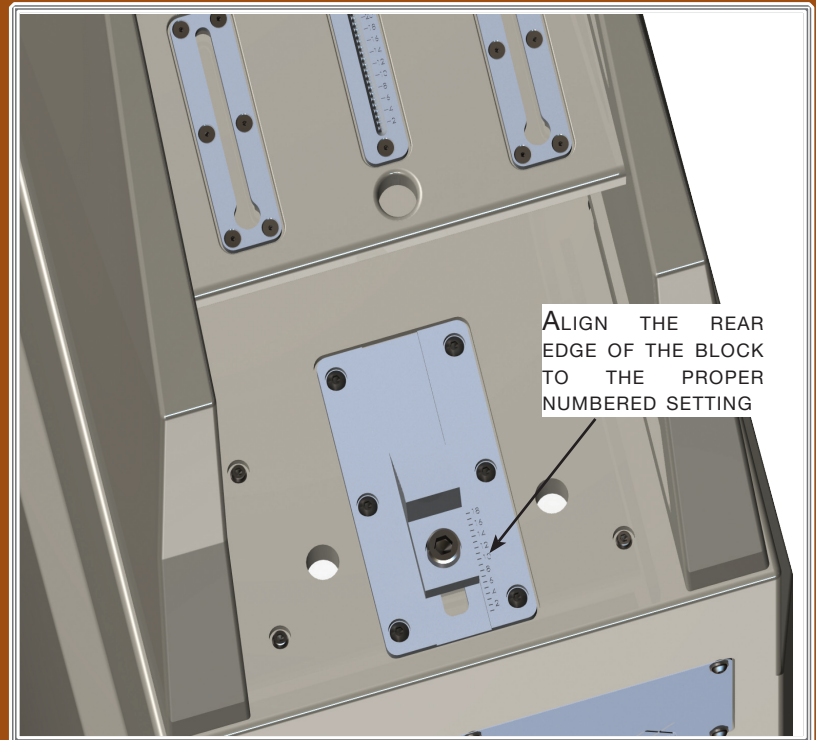
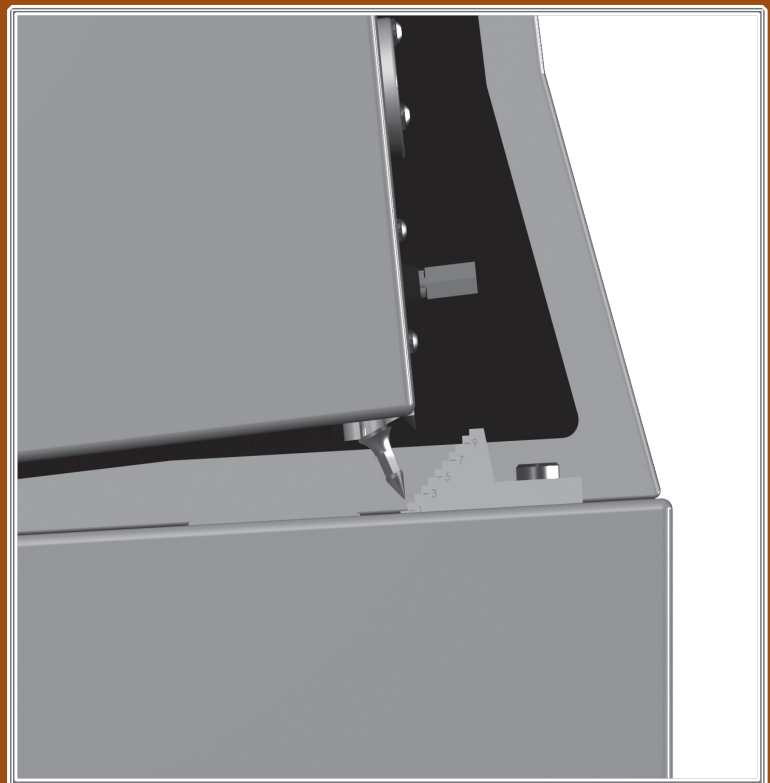

FIGURE 9 - SLIDE THE ALIGNMENT BLOCK TO ITS PROPER POSITION
FIGURE 10 - POSITION REAR SPIKE OF THE LOWER TWEETER/MIDRANGE MODULE INTO THE PROPER BLOCK STEP
6. Refer to the Propagation Delay Tables (see Section 8) and locate the corresponding ear height for each module. There are three charts for the Lower Tweeter/Midrange Module, the first (labeled Number 1: Lower Tweeter/Midrange Module Spike Length) is a table determining the rear spike length. The second is a table (labeled Number 2: Lower Tweeter/Midrange Module Block Position) determining the step block location (see Figure 9). The third table (labeled Number 3: Lower Tweeter/Midrange Module Block Step) specifies the step on which the rear spike will rest (see Figure 10).
10. There are two charts for the Upper Midrange Module, the first (labeled Number 4: Upper Midrange Module Spike Length) is a table determining the rear spike length. The second is a table (labeled Number 5: Upper Midrange Module Spike Detent Location) determining the step block location (see Figure 10).
- Refer to the table number 2, the Lower Tweeter/Midrange Module Block Position table. Using the rear edge of the Alignment Block as the guide, align the block to the proper front-to-back setting for this module (see Figure 9). Once the block is in its proper position, lock it down using the 3/8" Allen wrench.
- Refer to the table number 3, the Lower Tweeter/Midrange Module Block Step table to determine the numbered step in which to rest the rear spike (see Figure 10).